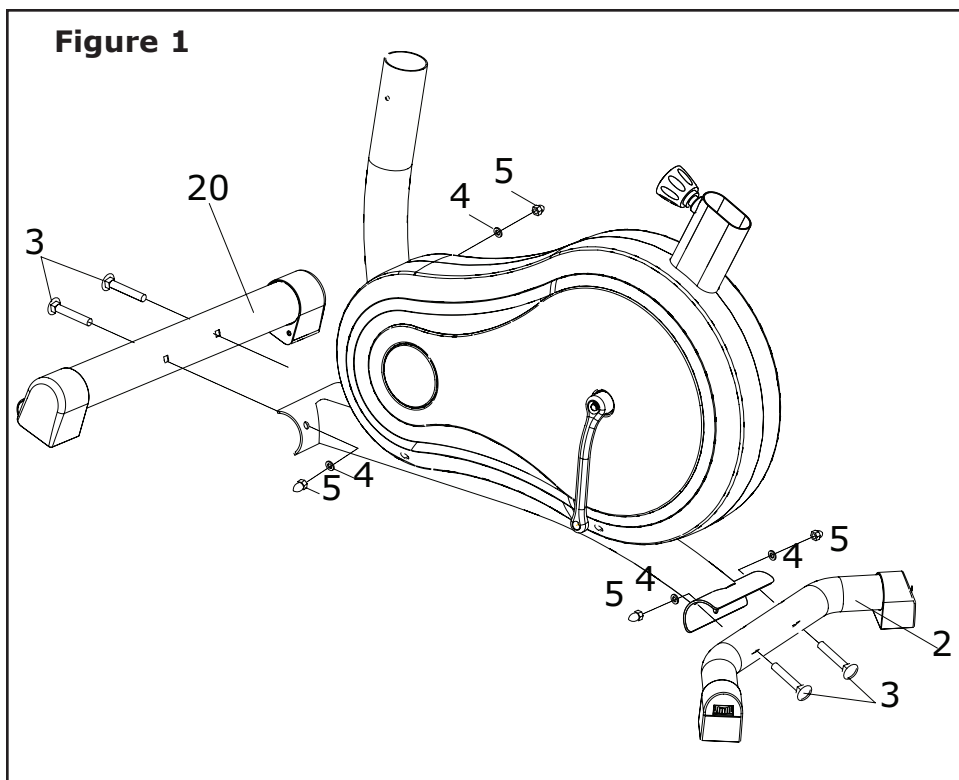

FIGURE 2
Thread the right pedal (11) onto the right side of unit as shown in Figure 2. Tighten the pedal securely. Secure in place by turning it **clockwise** to tighten. Select the right pedal strap which has "R" marked on the bottom side of the strap. Snap one end onto the inside edge of the right pedal (11). Snap the other end onto outside edge of the right pedal (11). Select adjustment holes which allow your foot to be easily removed from the pedals.